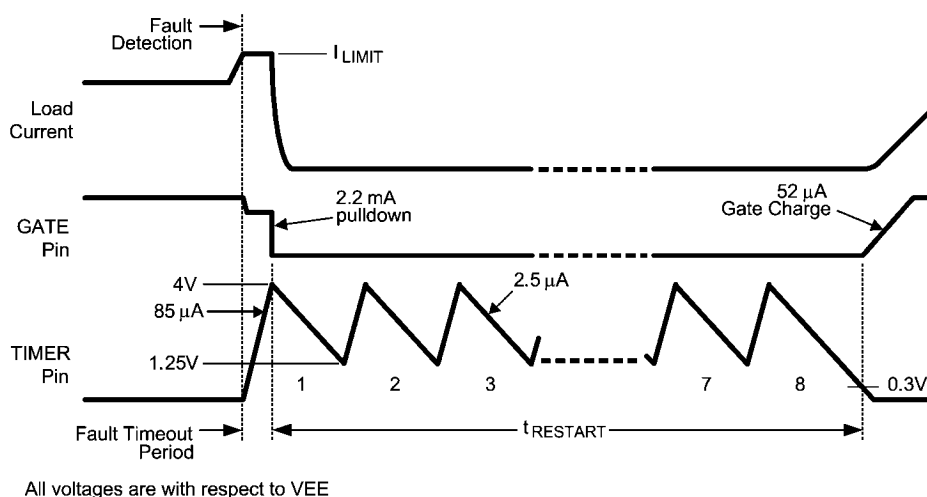

FIGURE 6. Restart Sequence (LM5067-2)
When the current limit or power limit threshold is reached during turn-on or as a result of a fault condition, the gate-to-source voltage of Q1 is modulated to regulate the load current and power dissipation in Q1. When either limiting function is active, an 85 µA fault timer current source charges the external capacitor (C_T) at the TIMER pin as shown in Figure 6 (Fault Timeout Period). If the fault condition subsides before the TIMER pin reaches 4.0V, the LM5067 returns to the normal operating mode and C_T is discharged by the 2.5 µA current sink. If the TIMER pin reaches 4.0V during the Fault Timeout Period, Q1 is switched off by a 2.2 mA pull-down current at the GATE pin. The subsequent restart procedure depends on which version of the LM5067 is in use.
The LM5067-2 provides an automatic restart sequence which consists of the TIMER pin cycling between 4.0V and 1.25V seven times after the Fault Timeout Period, as shown in Figure 6. The period of each cycle is determined by the 85 µA charging current, and the 2.5 µA discharge current, and the value of the capacitor C_T . When the TIMER pin reaches 0.3V during the eighth high-to-low ramp, the 52 µA current source at the GATE pin turns on Q1. If the fault condition is still present, the Fault Timeout Period and the restart cycle repeat.
C) Restart Timing If the LM5067-2 is in use, after the Fault Timeout Period described above, C_T is discharged by the 2.5 μA current sink to 1.25V. The TIMER pin then cycles through seven additional charge/discharge cycles between 1.25V and 4.0V as shown in Figure 6. The restart time ends when the TIMER pin voltage reaches 0.3V during the final high-to-low ramp. The restart time, after the Fault Timeout Period, is equal to: